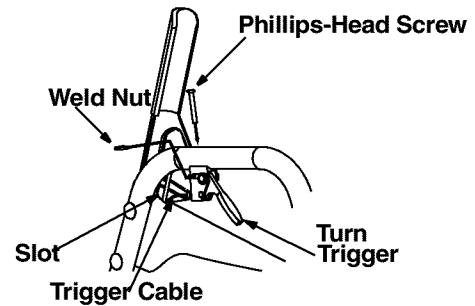

Figure 12
- Place the right turn trigger in position underneath the right handle. Secure with phillips head screw and weld nut from group H of the hardware pack. See Figure 12. You will need a phillips screwdriver for tightening the screw. Repeat on left side.